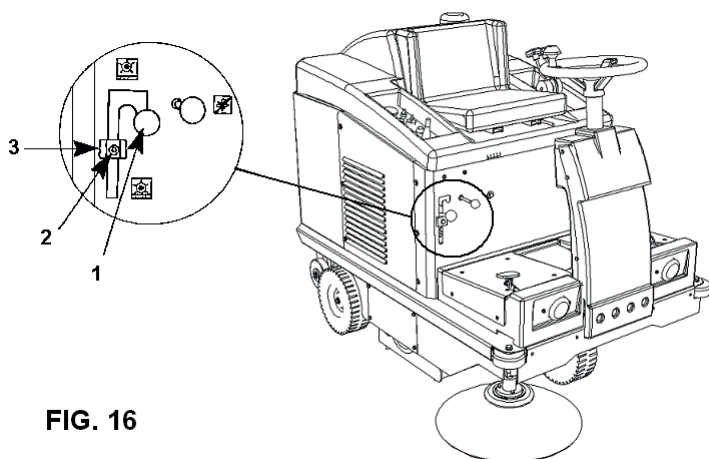

FIG. 16
- USTAWIĆ DŹWIGNIĘ(PUNKT 1- RYS.16)W POZYCJI SZCZOTKA CENTR. -W GÓRZE
- ZWOLNIĆ SRUBĘ(PUNKT 2- RYS. 16).
- OBNIŻYĆ REGULATOR(PUNKT 3- RYS.16) O  $\frac{3}{4}$  mm LUB O WYMAGANĄ ODLEGŁOŚĆ.
- USTAWIĆ DŹWIGNIĘ NAD REGULATOREM (PUNKT 3 –RYS. 16).